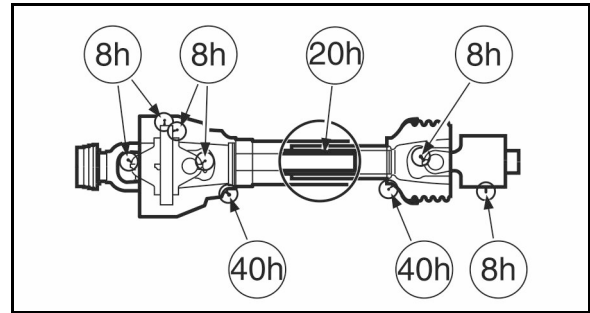

Fig. 25
3. Both outlet openings must be 37,5 mm open (Fig. 25).
Check the distance between agitator finger and hopper wall. The agitator finger should be parallel to the hopper wall with a distance of $27 + 1$ mm (Fig. 25).
Check distance between agitator finger and hopper wall. The agitator finger should be positioned parallel to the hopper wall with a spacing of $27 + 1$ mm (Fig. 25).